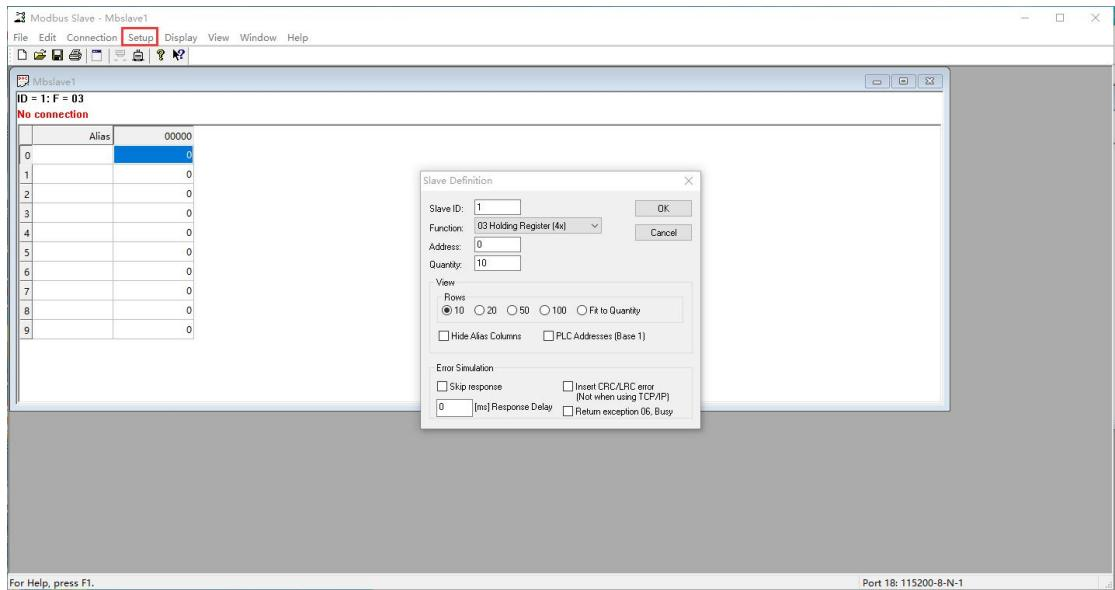

Figure 6-25 Slave software MODBUS protocol settings
- 5) Open "Modbus Slave" tool, MODBUS protocol setting is the same as "Modbus Poll", select function Code 3, as shown in Figure 6-25.